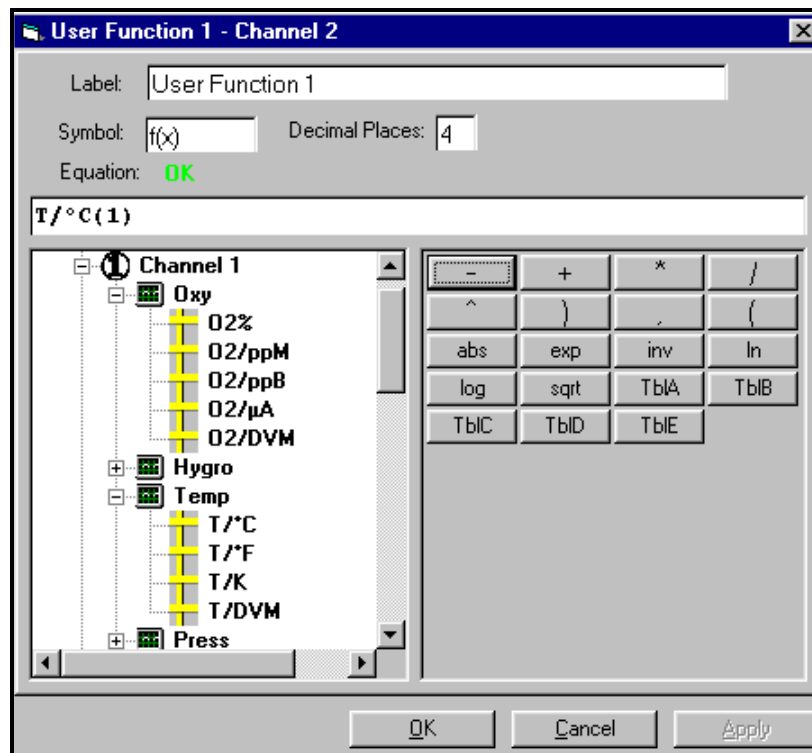

Figure 55: The User Function Window
2. Click on “*User Functions*,” and then double-click on the desired function (1 to 4). The right side of the screen appears similar to Figure 55.